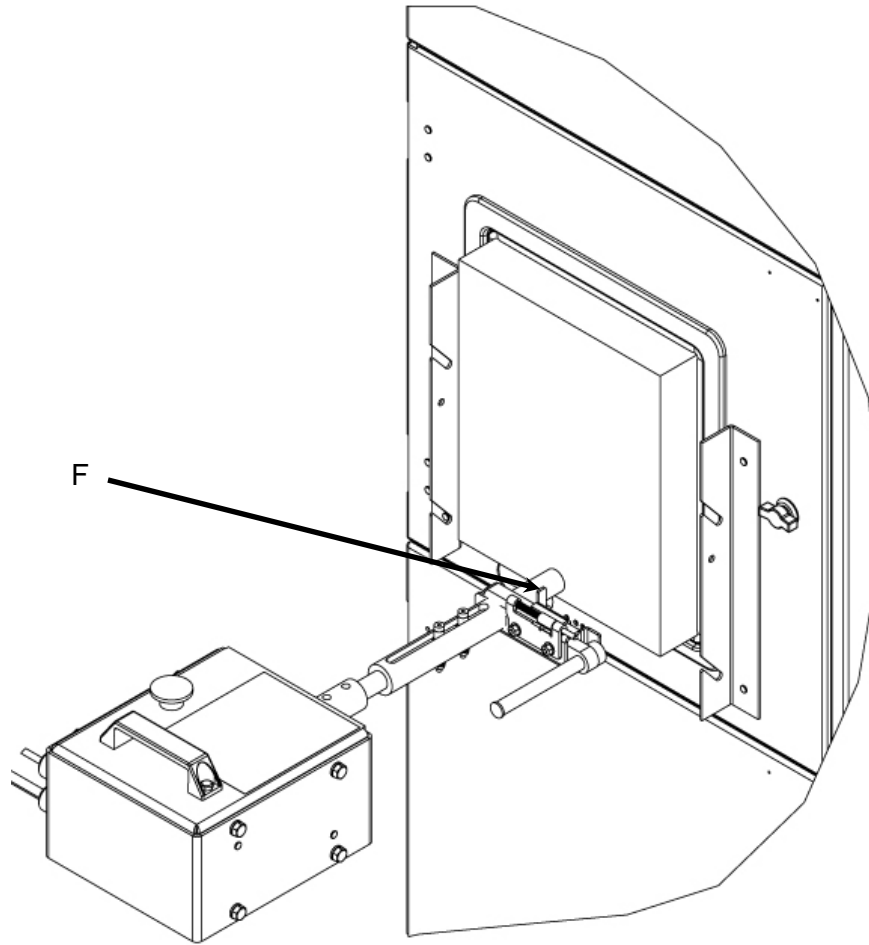

Fig. 2.6
8. Engage the Handle Retainer by rotating and sliding the tab into the slot on the edge of the Sliding Coupling. The Retainer is spring loaded and will stay in place once engaged into slot. See Fig.2.6, item F.